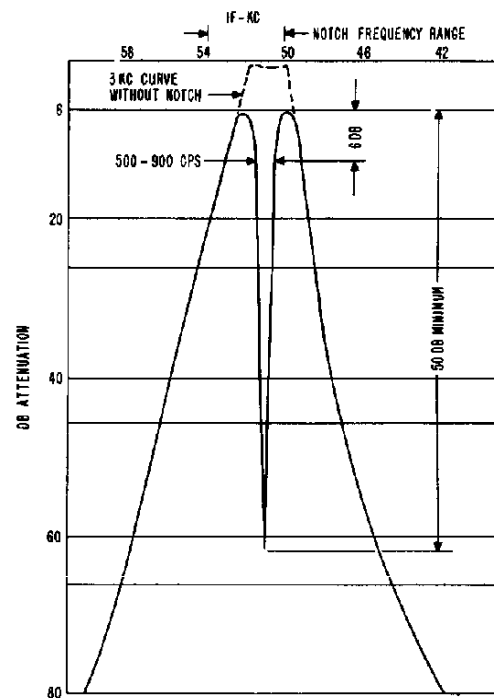

Fig. 9. IF Selectivity Curve with Notch
The manner in which the notch filter will affect the i-f selectivity of the receiver is illustrated on page seven of your instruction book. As shown in Fig. 9 the filter will suppress an extremely narrow band of frequencies within the i-f band pass range of the receiver. The effectiveness of this notch is many times greater than the notch of a quartz crystal filter at 400 kc to 2 mc. The NOTCH FREQUENCY control will move the band of suppressed frequencies represented by the notch in the selectivity curve, to any point within the i-f passband. The NOTCH DEPTH control will vary the depth of the notch in the selectivity curve to control the degree of rejection of the interfering signal.
**NOTCH FREQUENCY CONTROL** — This control tunes the notch in the i-f pass band and may be set anywhere in the range of from 50 kc to 54 kc. The approximate frequency is calibrated on the knob skirt. While tuning this control for maximum suppression of the interfering heterodyne with minimum distortion to the desired signal, try to visualize the notch moving across the selectivity curve, Fig. 9. It is then readily apparent that improper tuning may notch out the desired signal instead of the heterodyne. It may be necessary to move the notch across the desired signal in order to reach the heterodyne that you desire to suppress. The important consideration is to tune the NOTCH FREQUENCY control for maximum heterodyne suppression with minimum distortion to the desired signal.